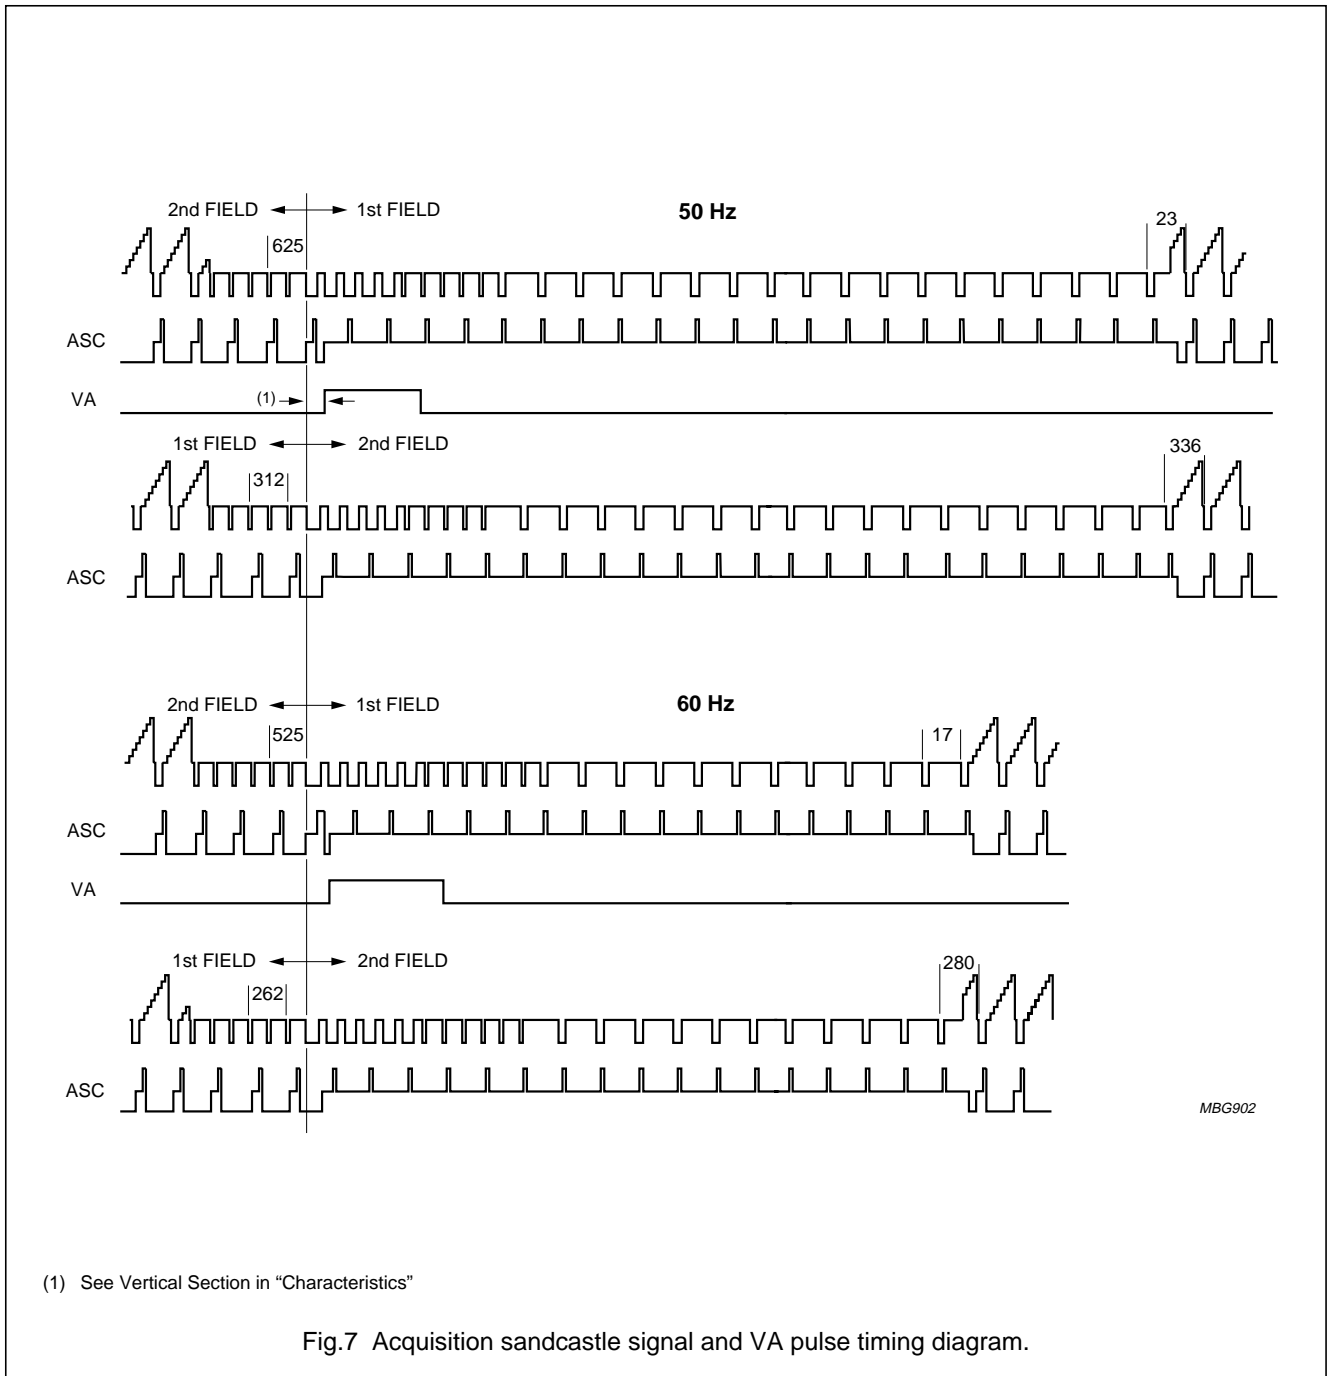

Fig.7 Acquisition sandcastle signal and VA pulse timing diagram.
(1) For system M, line numbers start with the first equalizing pulse in field 1, but the internal line counter starts counting at the first vertical sync pulse in field 1. This line number notation is used here and in Fig.7.
Figure 7 illustrates the timing of the acquisition sandcastle (ASC) and the VA pulse with respect to the input signal. The sandcastle signal is according to the two-level 5 V sandcastle format. An external vertical guard current can overrule the sink current to enable blanking purposes.